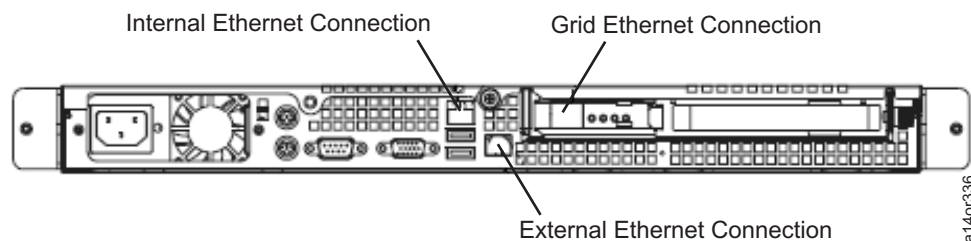

Figure 2-3. Network Connection Diagram – 8836 (3953 Only) (FC 2718, FC 2719)
- Figures representing each feature code begin with Figure 2-3 on page 2-5.